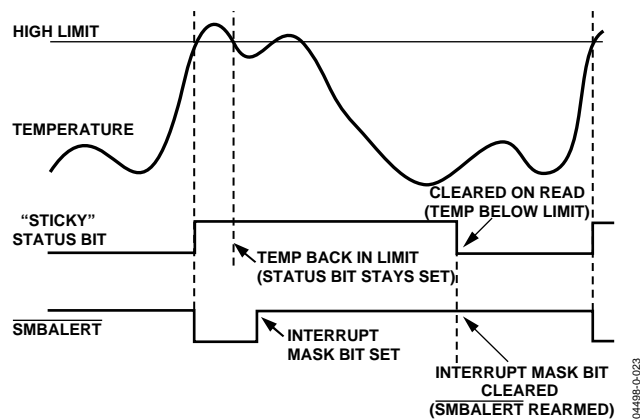

Figure 29. How Masking the Interrupt Source Affects $\overline{\text{SMBALERT}}$ Output
7. Periodically poll the status registers. If the interrupt status bit has cleared, reset the corresponding interrupt mask bit to 0. This causes the $\overline{\text{SMBALERT}}$ output and status bits to behave as shown in Figure 29.